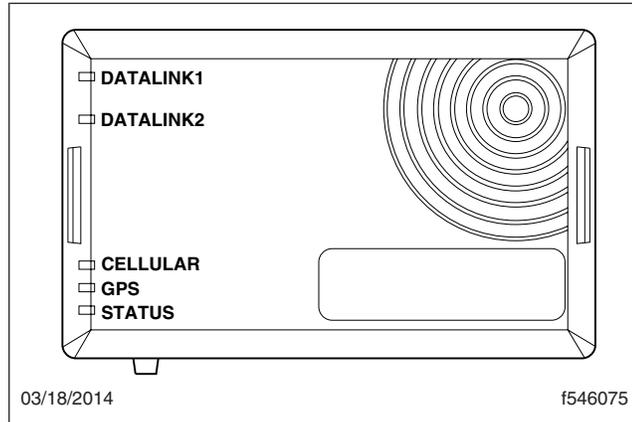

Fig. 5, Virtual Technician HU LEDs
6.2 If no LEDs light up with the ignition ON, diagnose supplied power and ground to the unit. See Fig. 5 and Table 2. There are seven LEDs visible on the VT module. Start the vehicle and drive to an open area, at least 40 feet (12 meters) away from any buildings. Park the vehicle and keep the ignition in the ON position. Apply the parking brake.